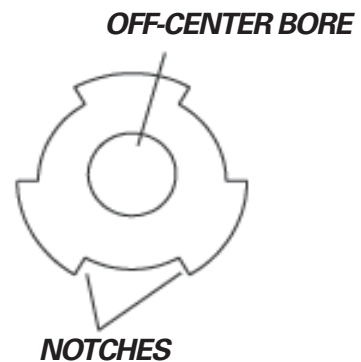

FIGURE 3-15
5. If the bores need to be aligned, rotate each sleeve in its bore. This can be done by pounding against the notches in the head of the sleeve (see figure 3-15).